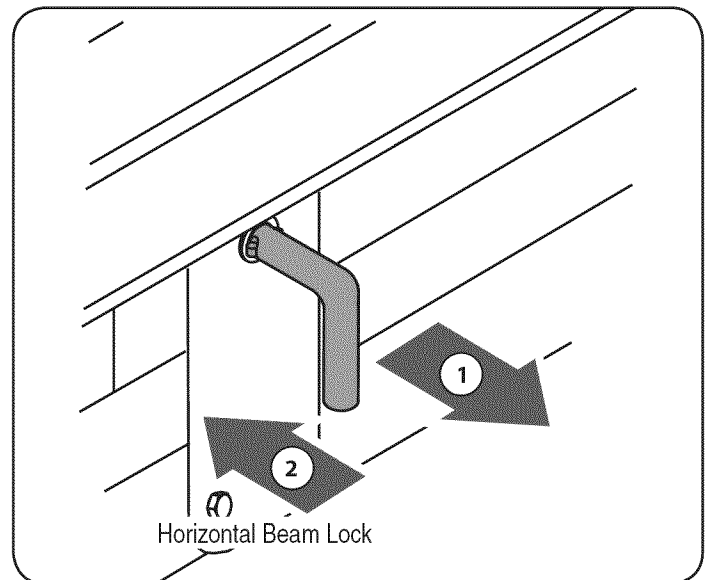

Figure 13
1. Pull the vertical beam lock out and rotate it down. See Figure 13. Pivot the beam to the horizontal position. The beam will lock automatically in the horizontal position.